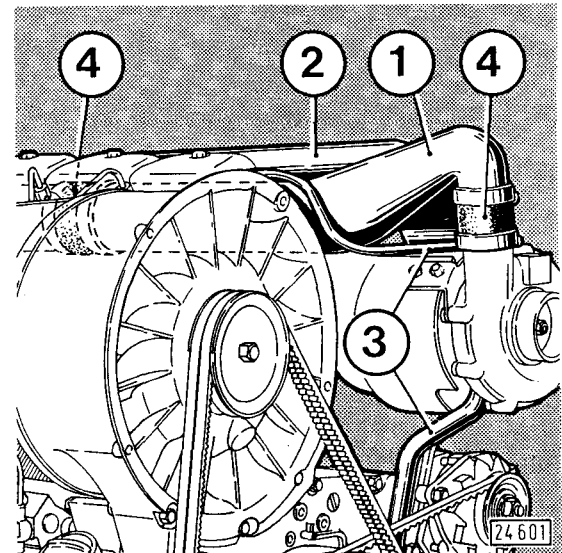

Fig. 62
- Air intake manifold 1 and charge air line (Fig. 62),
- Exhaust manifold 2 (Fig. 62) and lube oil line 3 to and from turbocharger for firm seating and tightness.